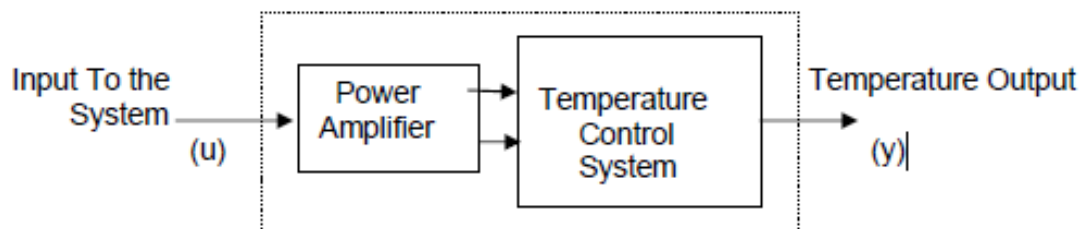

Figure T1.1: System Description and Block Diagram of Temperature Control
Figure T1.1 shows the block diagram and the system description of the temperature process.
- Connect the “Temperature Control System Block Diagram” (Figure T1.1) to the Power Supply unit and with the “Reference Variable generator”.